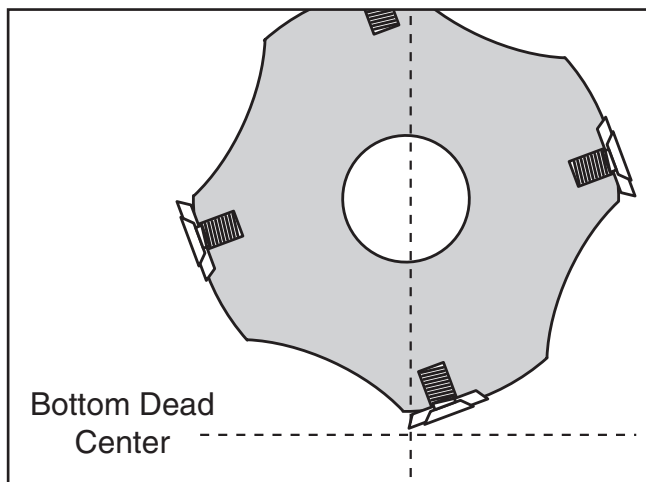

Figure 33. Cutterhead carbide insert at bottom dead center (BDC).
4. Using the cutterhead pulley, rotate the cutterhead so that the carbide insert on the left edge of the cutterhead is at bottom dead center (BDC) (see **Figure 33**)—this will also place the carbide insert on the right side of the cutterhead at BDC.